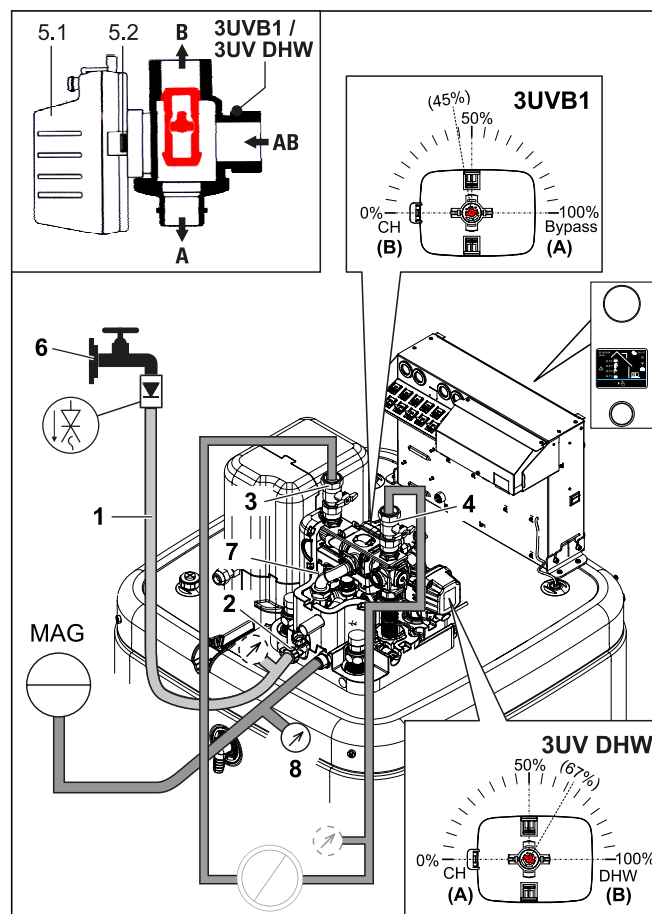

Fig. 7-2 Filling the heating circuit
- Connect the filling hose (Fig. 7-2, item 1) with the non-return valve (1/2") and an external pressure gauge (on the building side) to the combined filling and draining valve (Fig. 7-2, item 2) and secure it against slipping off with a hose clamp.
- Open the water tap (Fig. 7-2, item 4) on the feed pipe.
- Open the combined filling and draining valve (Fig. 7-2, item 2) and monitor the pressure gauge.
- Close the water tap (Fig. 7-2, item 4). The combined filling and draining valve must remain open in order to read off the water pressure on the external pressure gauge.
- Constantly check the water pressure on the external pressure gauge during hot water heating mode, and top up water via the combined filling and draining valve (Fig. 7-2, item 2) if necessary.
- Again check the water pressure on the external pressure gauge, and top up water via the combined filling and draining valve (Fig. 7-2, item 2) if necessary.
- Disconnect the filling hose (Fig. 7-2, item 1) with non-return valve from the combined filling and draining valve (Fig. 7-2, item 2).
Tab. 7-2 Legend for Fig. 7-2